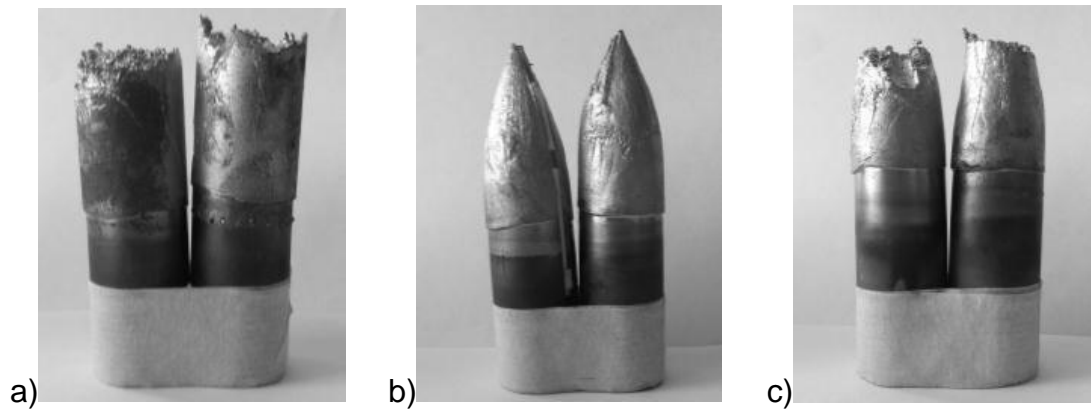

Figure 3: hot tensile test specimens after different testing temperatures
- d) Figure 3 shows three specimen after testing at 950°C, 1200°C and 1500°C of material A. Which specimen belongs to the previous mentioned testing temperatures? (1,5 Points)